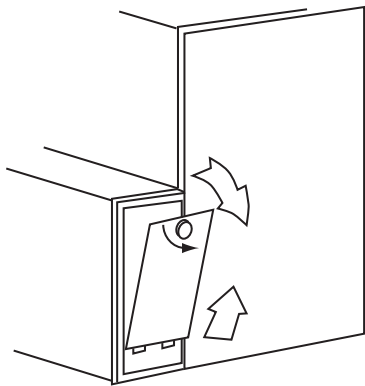

Fig. 20 – Removal of Filter Cabinet Door from Side Blower Cabinet
- a. Remove filter cabinet door. (See Fig. 20 and 21.)